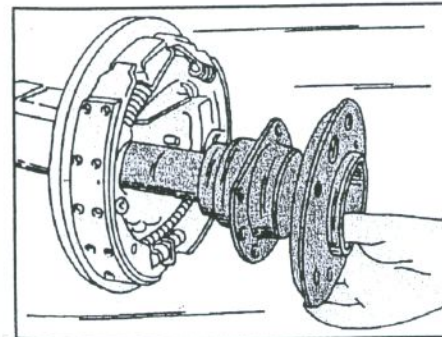

Fig. 5.5 – Fitting an axle drive shaft.
- Align the holes in the bearing cover with the holes in the brake backplate and the rear axle tube (Fig. 5.5) and fit and handtighten the bolts. The nuts are self-locking and must always be replaced. Tighten the nuts evenly across, until the bolt heads contact the bearing cover and the cover contacts the brake backplate. From this position tighten each nut by a further 1/2 of a turn, until the correct tightening torque of 7.7 – 8.8 kgm (55 – 63.5 ft.lb.) has been obtained. Again the shaft flange must be rotated accordingly to insert a socket with a short extension.